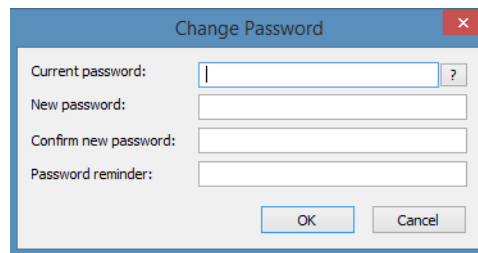

Figure 4-22: Change Password Dialog Box
1. Click **Security > Change Password** to display the Change Password dialog box (Figure 4-22).